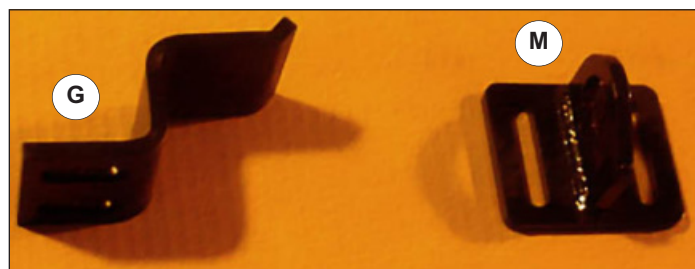

Figure 4.5
3. From that “mark”, measure over 1” [25] away from the door opening. Mark a 6” [152] vertical line, this is where the center of the slots on the catch will be located, **Figures 4.5 & 4.6**.